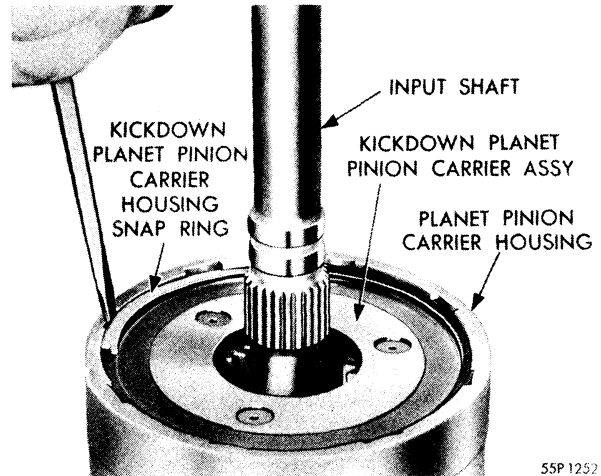

Fig. 76—Removal or Installation of Snap Ring
- (3) Using a screwdriver, remove the transmission kickdown planet pinion carrier housing snap ring, as shown in Figure 76. Identify snap ring to aid in assembly.